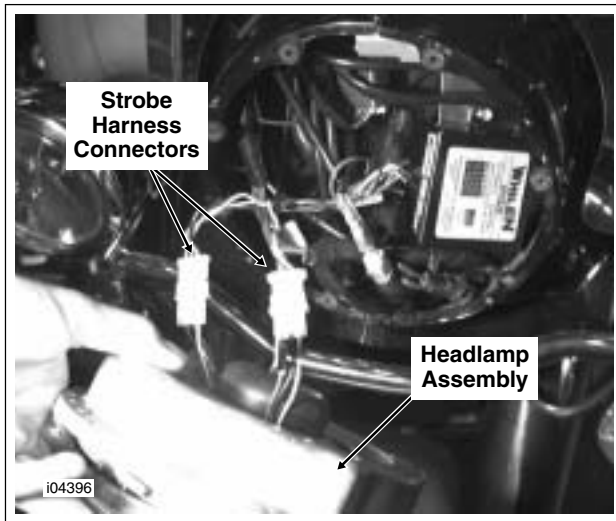

Figure 8-13. Install Strobe Harness to Headlamp
17. See Figure 8-13. Obtain the new strobe headlamp assembly from the kit. Reaching into the headlamp nacelle, retrieve the two headlamp strobe harnesses. Mate the harnesses to the connectors at the back of the headlamp.